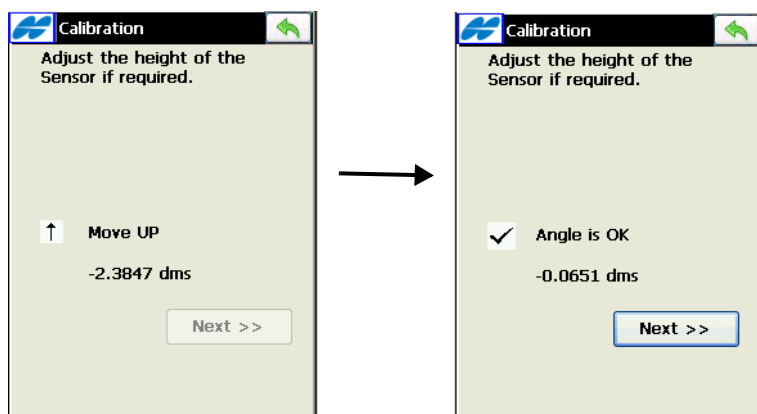

Figure A-14. Check Angle of Sensor
- Adjust the height of the sensor so the angle is less than 1° . Once the Angle is OK, tap **Next** (Figure A-14 on page A-9).